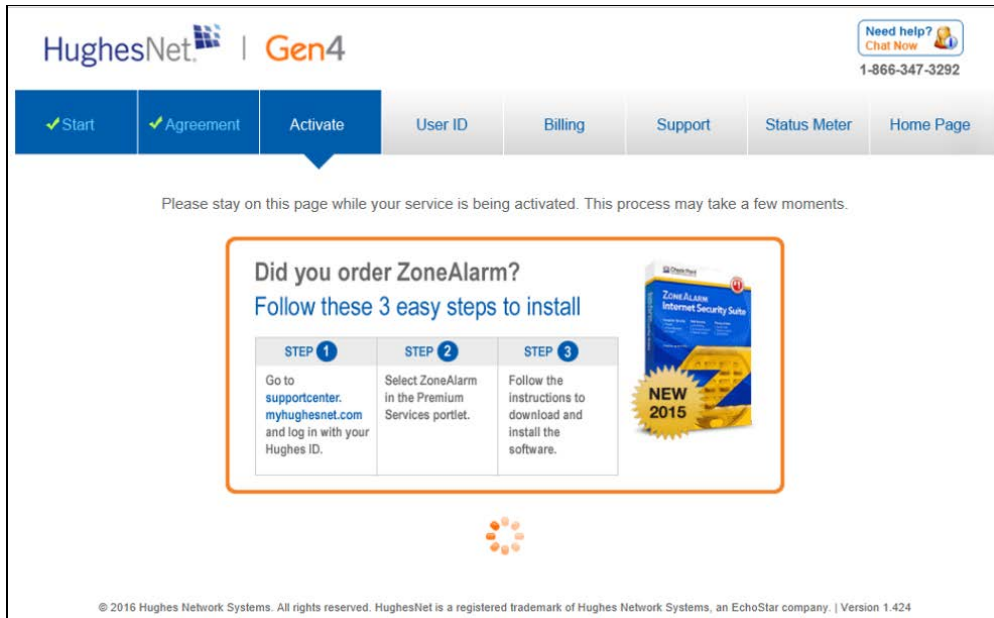

Figure 40: Activate screen
9. Once the system finishes processing on the Activate screen, the User ID page will appear, as shown in Figure 40.